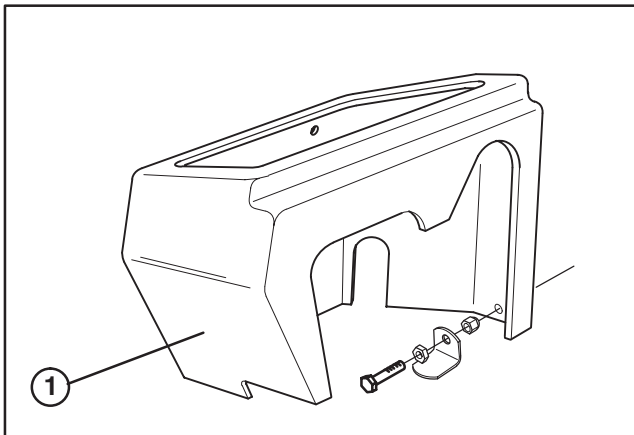

Figure 12
2. Remove capscrew, jam nut and acorn nut used to secure front of control panel cover to frame (Fig. 12).